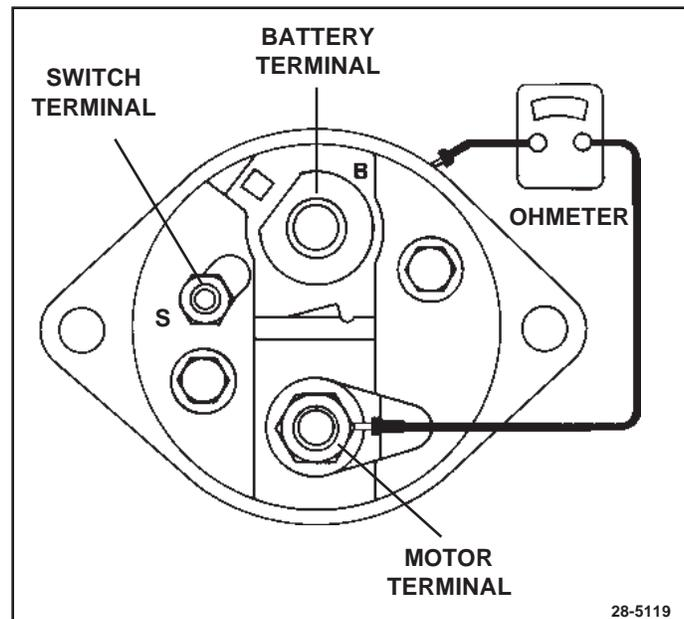

Figure 12. Solenoid Terminals
Figures 12 and 13
- Using a suitable ohmmeter, check windings of solenoid assembly (1) for continuity as follows:
- Check resistance of solenoid pull-in and hold-in windings in series by measuring resistance between motor terminal (see Figure 12) and solenoid case. Resistance should be approximately 0.95 ohms for 12-volt starters and approximately 1.75 ohms for 24-volt starters.
- Check armature (13) as follows for shorts, opens or grounds using suitable test equipment and instruments (test lamp must be 110 volts or less):
- Check frame and field assembly (19) for grounds or opens using test lamp (110 volts max.) or ohmmeter, as follows: